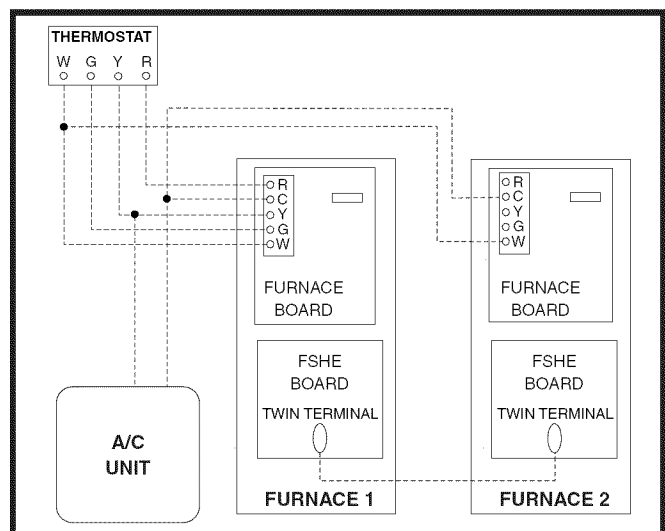

Figure 29. Single Stage Twinning
If both single stage furnaces are upgraded to the fixed speed iSEER™ blower, the twin terminal on the blower control boards (Figure 29) may be used to twin the single stage furnaces only if the following criteria are met:
For twinning of single stage furnaces equipped with fixed speed iSEER™ blowers, refer to Figure 29 and the following instructions:
3. Refer to Figure 29 for the remaining thermostat connections. The **C** connection must be made between the twinned furnaces to ensure proper performance.